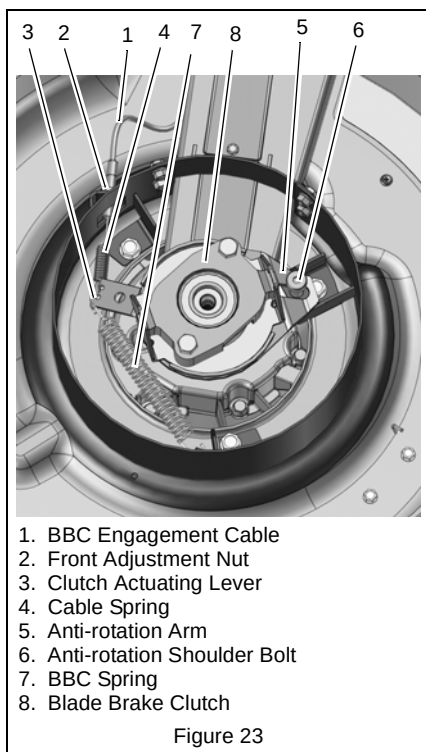

Figure 23
3. Loosen adjustment nuts on BBC engagement cable. Loosen front nut until threads are no longer engaged and nut is loose on the cable. See Figure 23.
4. Insert a 6 mm (1/4") prybar or similar tool into the hole in the clutch actuating lever. Pry lever to the right (clockwise) and disconnect cable spring from clutch lever. See Figure 23.
5. While holding anti-rotation arm in position with prybar, remove anti-rotation shoulder bolt. Gradually release the spring tension and allow the anti-rotation arm to rotate counter-clockwise. See Figure 23.
6. Remove BBC spring. See Figure 23.
7. Remove hardware securing BBC to engine shaft and remove BBC assembly. Save all hardware for reinstallation. See Figure 23.
8. Reattach cable spring to clutch actuating lever. See Figure 23.
10. Reinstall front lock nut on BBC engagement cable. Thread far enough to allow only a minor amount of slack on inner cable. See Figure 23.